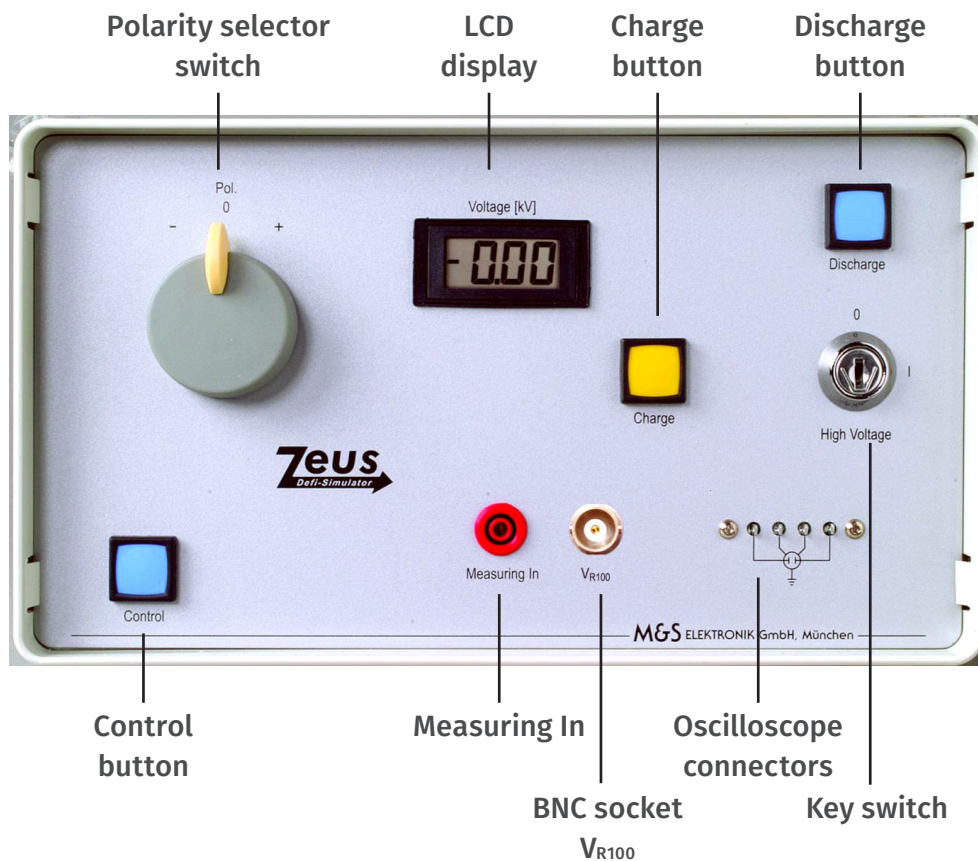

Figure 3-3: Operating elements of the Zeus
- Dynamic test of energy limitation at various parts of the device under test: for this test a test terminal connector (see 3.4 Accessories) is connected at the Measuring In-connector (see Figure 3-3).